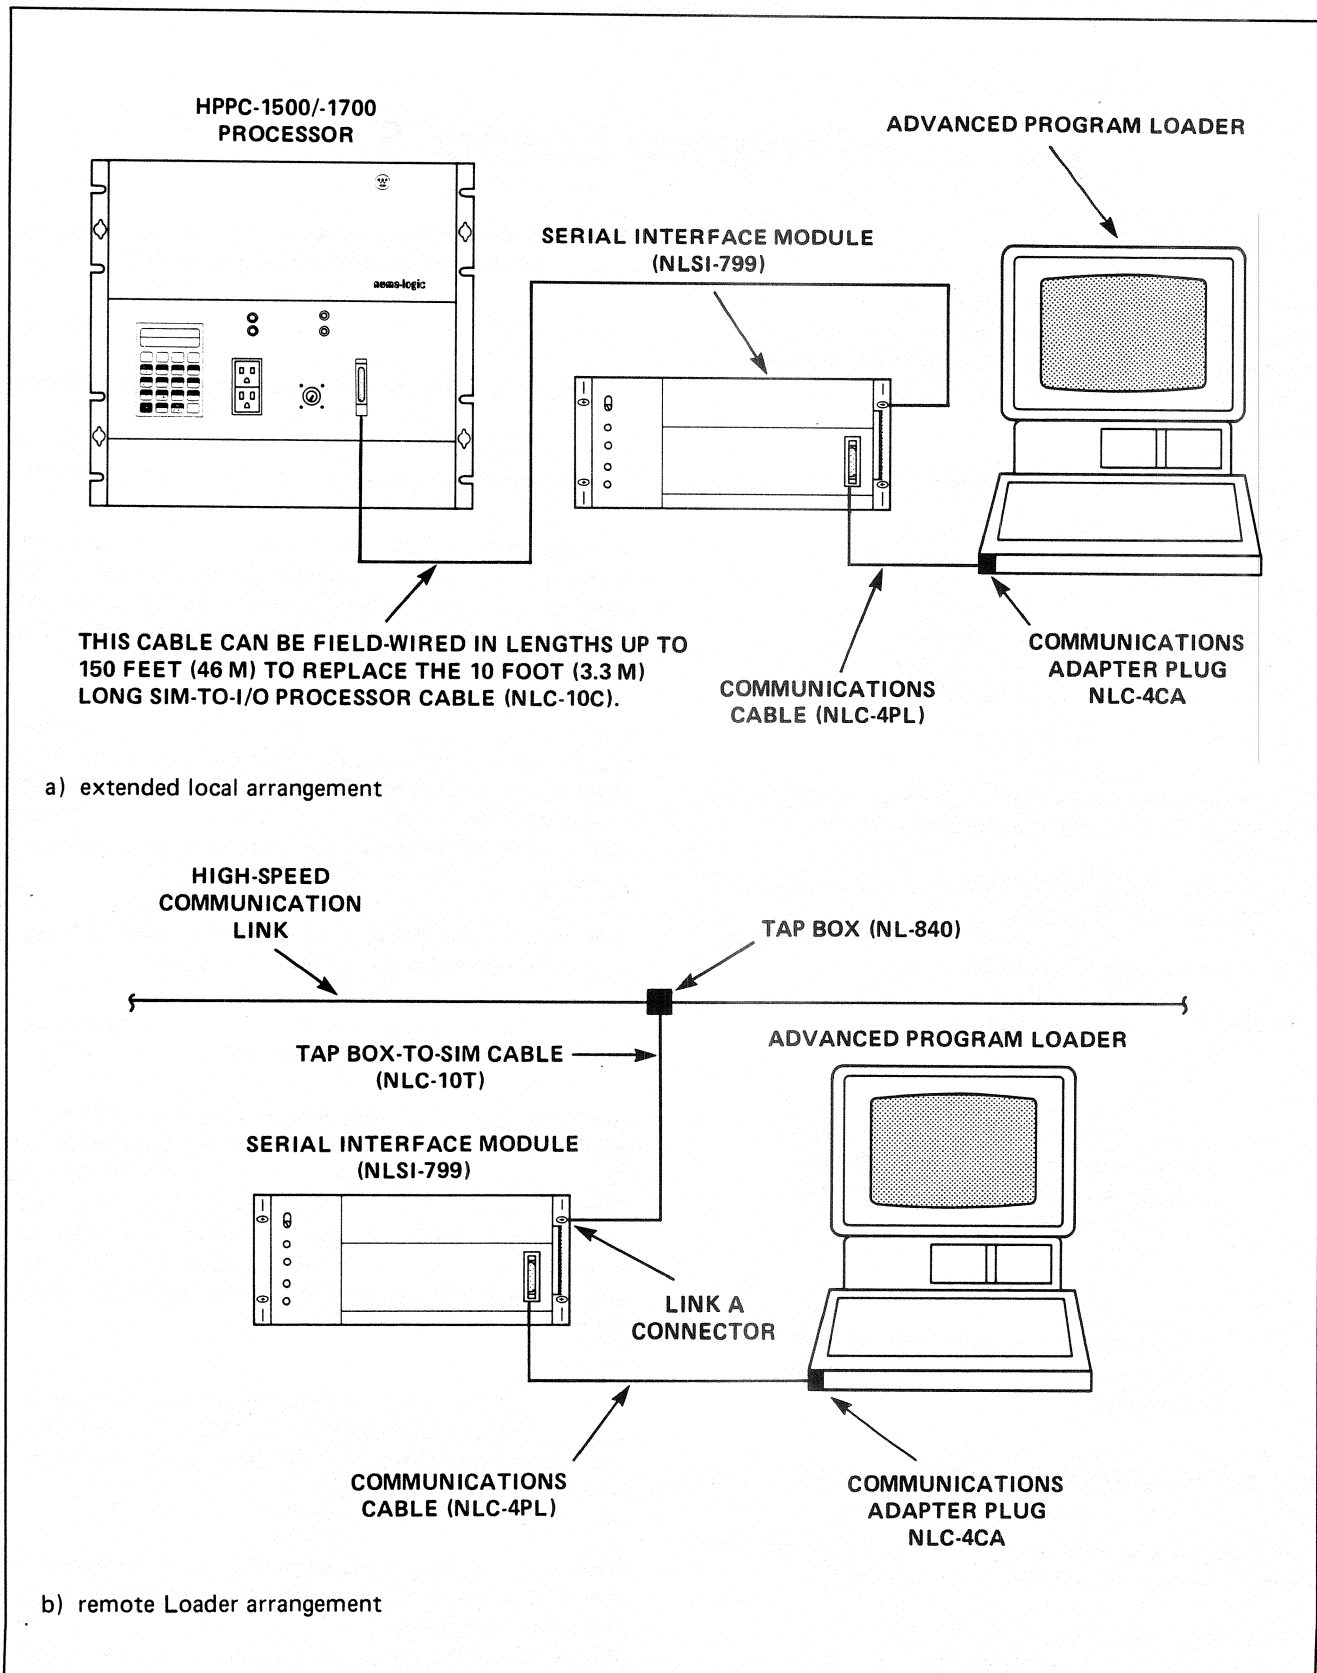

Figure 5-1. Loader-to-SIM Connections
Complete details of extending the standard SIM-to-I/O Processor Cable's (Catalog No. NLC-10C) length to 150 ft are given in Appendix B of the HPPC-1500/-1700 Systems Manual (Catalog No. NLAM-B821). Also refer to Figure 5-1(a) in this manual which illustrates the arrangement. Note that this is essentially a "local" arrangement and requires only one additional Serial Interface Module (SIM).
The arrangement that extends the distance between the Loader and the processor to 10,000 ft is essentially a remote system. Thus a great deal more hardware is required. See Figure 5-1(b).
- **On-line**, where the Loader communicates directly with the HPPC-1500/-1700 processor. The Loader actually enters or edits the ladder diagram into the memory of the processor. It is also able to monitor the current states of the inputs and outputs, if any. Figure 5-2 shows the on-line connection between the Loader and processor. If the Loader is to be operated remotely, as described in Paragraph 5-2, it can be connected as shown in Figure 5-1(b).